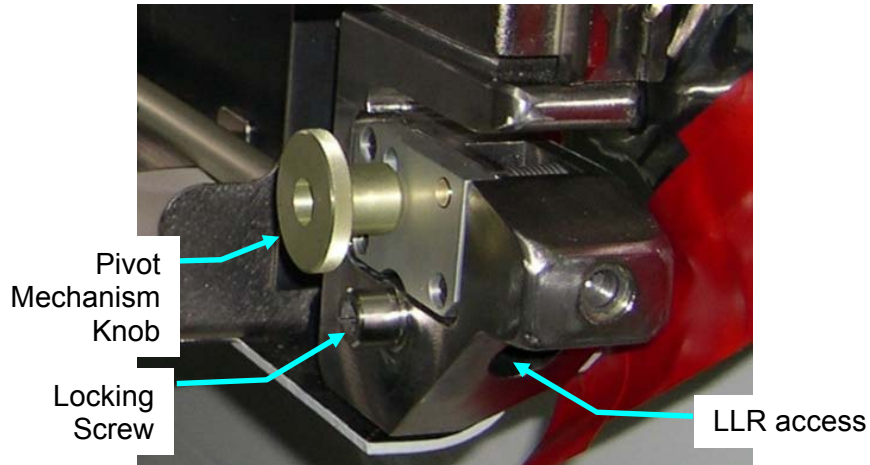

Figure 7.- WRS-2 Pivot Mechanism and Lower Launch Restraint (LLR), Right Side.
- 8.3 Loosen Mechanism Knobs so they are free to move. Refer to Figure 7.